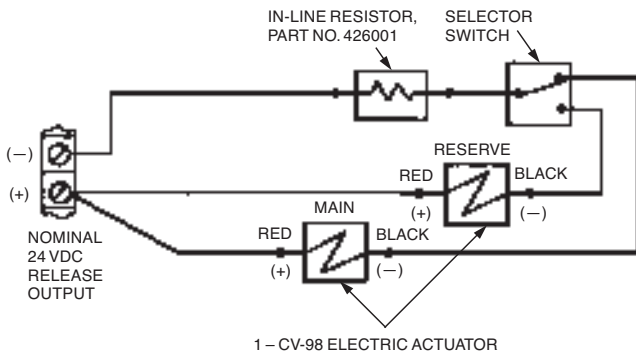

FIGURE 4
- Figure 4 shows a typical diagram for main/reserve actuator wiring to the release circuit of an AUTOPULSE micro-processor-based control panel. Polarity must be observed when wiring this circuit. A selector switch is required for this circuit. (Always check with the control panel manual for specific details pertaining to release circuit wiring.)